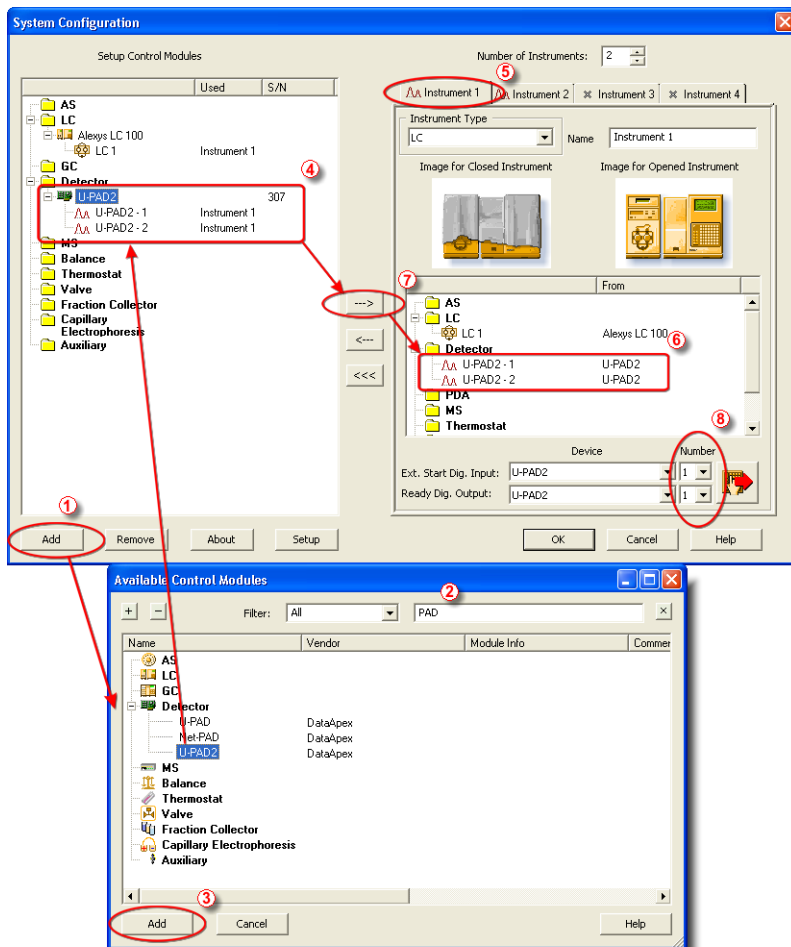

Fig. 8: System Configuration
- Press the *Add* button 1 (See **Fig. 8** on pg. 9.) to invoke the *Available Control Modules* dialog.
- You can specify the searching filter ② to simplify the finding of the driver.
- Select the **U-PAD2** and press the *Add* ③ button.
Note: The input used for an external start from a chromatograph can be set in the *System Configuration* dialog, see **Fig. 8** on pg. **9**.